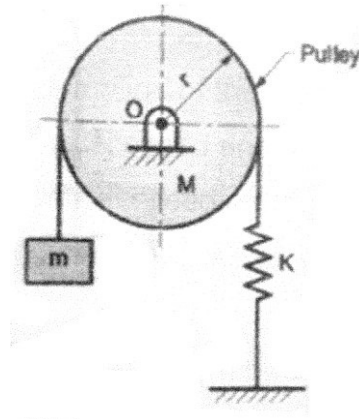

Figure No. 2
- Q3) a)** Determine the natural frequency of the system as shown in the Fig. No. 2. [6]